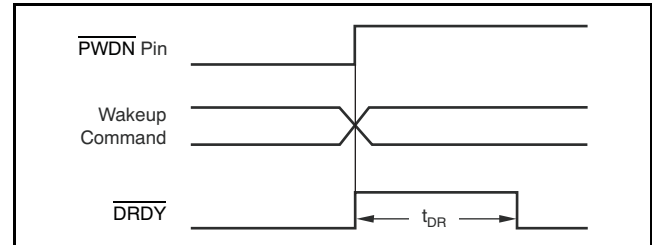

Figure 55. $\overline{\text{PWDN}}$ Pin and Wake-Up Command Timing (Table 12 shows t_{DR})
In power-down, note that the device outputs remain active and the device inputs must not float. When the Standby command is sent, the SPI port and the configuration registers are kept active. Figure 55 and Table 12 show the timing.
(1) See Figure 55 and Table 12 for time to new data.